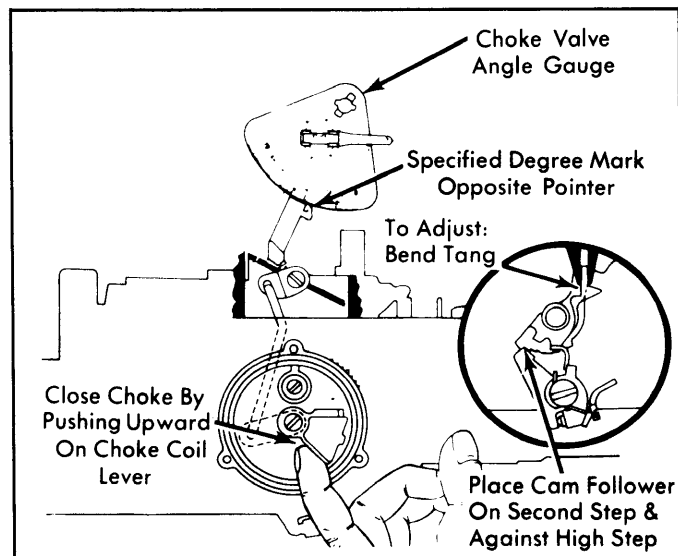

Fig. 5: Adjusting Choke Rod (Fast Idle Cam)
- 1) Place fast idle speed cam follower on second step of fast idle cam against shoulder of highest step. See Fig. 5. Close choke by pushing up on choke coil lever or vacuum break lever tang. Hold choke closed with a rubber band.